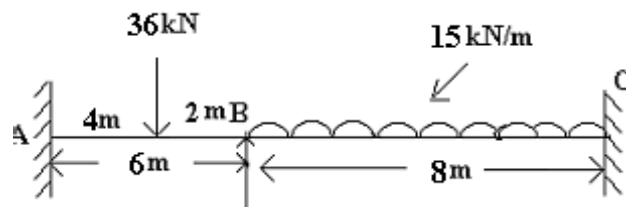

Figure 2:
6. Using moment distribution method analyse the two span continuous beam loaded as shown in Figure 2 if the moment of inertia of AB = I while that of BC = 2 I. The ends A and C are simply- supported. Sketch the B.M. and S.F. diagram. [16]